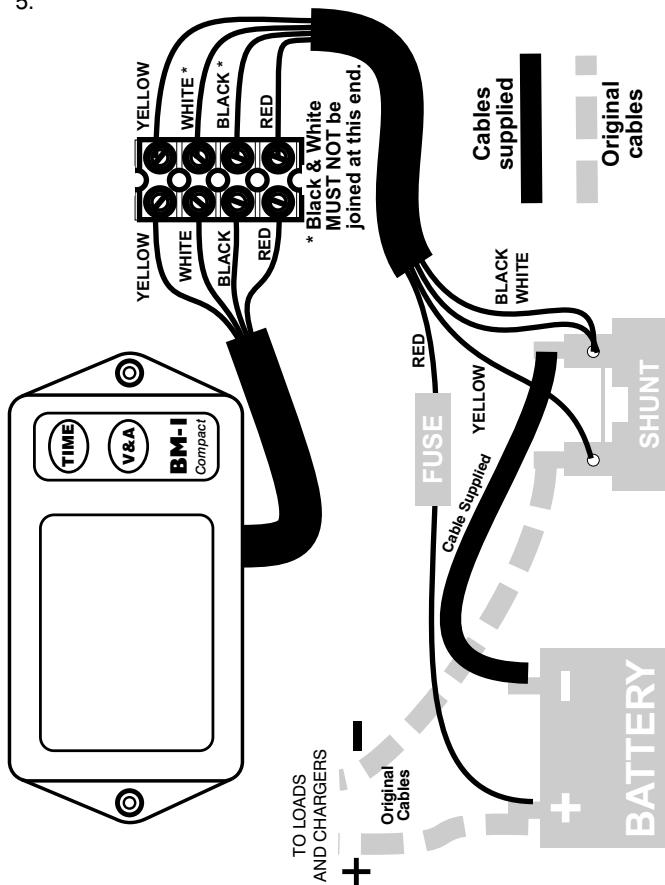

Figure 1 - Wiring Installation
3. Screw the unit to the panel and connect the wires to the terminal block provided. Connect the shunt cable to the display unit as shown on Figure 1, above, using the terminal block supplied. Be careful to connect the wires exactly as shown, noting that the black and white wires are joined at the shunt connection, and are connected separately at the instrument end of the cable.
7. Disconnect the NEGATIVE terminal from the battery and connect it to the shunt as shown in Figure 1.
8. Connect the Black and White wires and Yellow wire to the shunt as shown on Figure 1.
9. Connect the short link cable to the shunt and then to the negative terminal of the battery, as shown on Figure 1. Ensure it is positioned where it cannot come into electrical contact with other parts, and ensure it will remain dry and free from contaminants. Also note that the shunt can get warm when heavy currents flow, so ensure it is secured in a position where its heat cannot affect other parts.